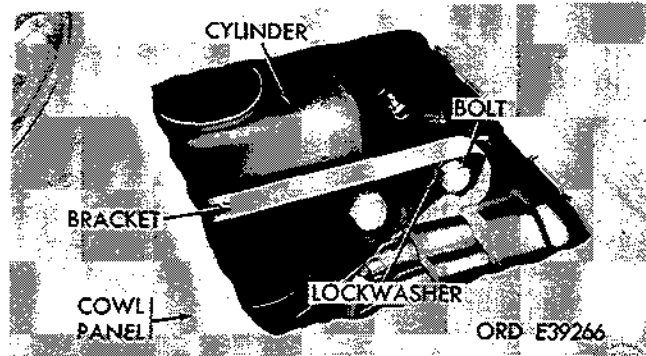

Figure 2-375. Disconnect master cylinder bracket from firewall.
(4) Remove two bolts and lockwashers securing master cylinder bracket to bracket on firewall under dash panel (fig. 2-375).